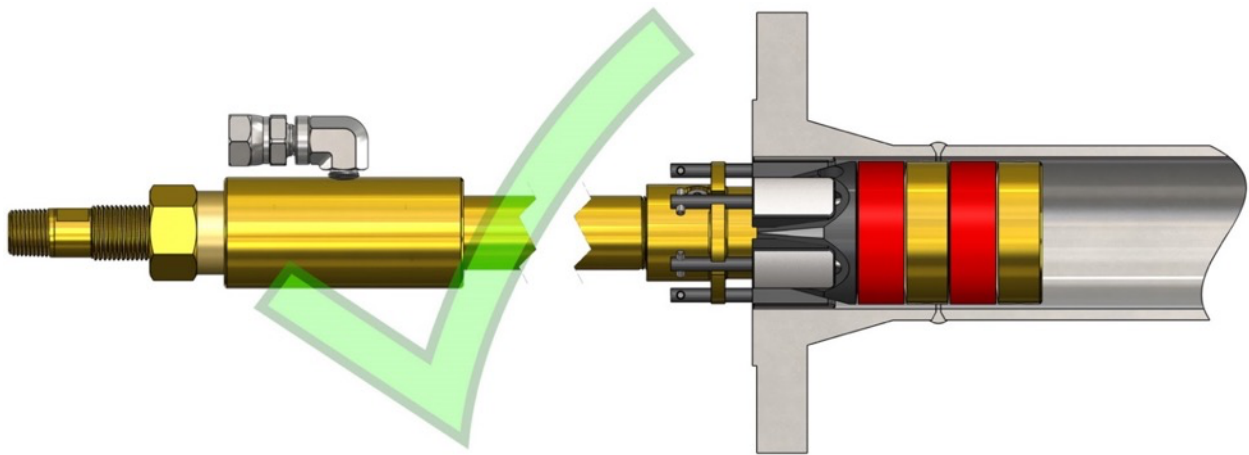
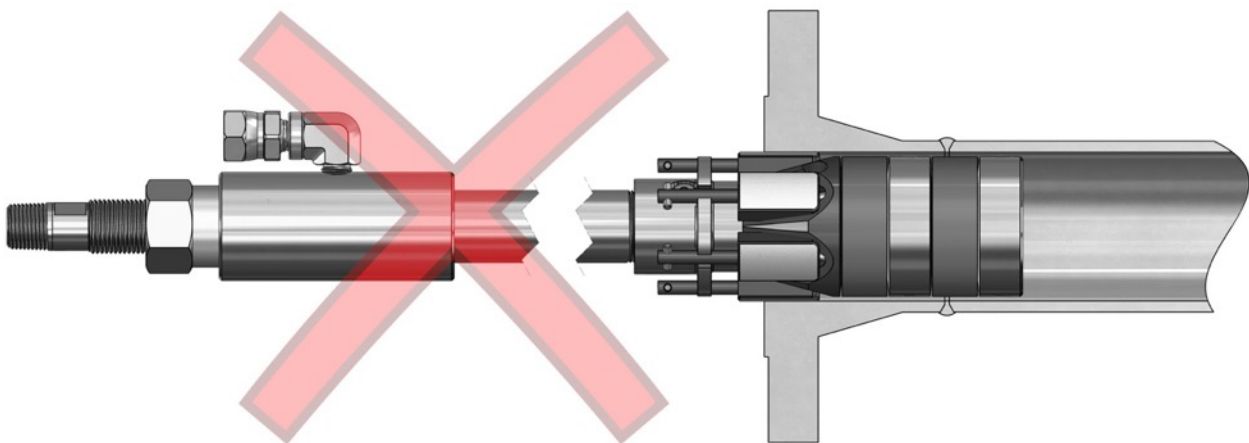

Figure 9: Permissible Insertion Depth with Backpressure Rating
Figure 10: Impermissible Insertion Depth with No Backpressure Rating
CAUTION: Gripping failure may occur if the **Gripping Wedges (16)** are not fully inserted into the pipe or fitting. If any part of the **Wedge Gripper (16)** is visible beyond the pipe or fitting end (see Figure 10), the GripSafe plug may not hold backpressure. Ensure the plug is advanced so no Wedge Gripper surface is visible (see Figure 9). Be careful not to cover the weld area with the **Seal (14)** to avoid false hydrotest results.
- See Figure 9 for an example of a properly installed Safety Gag.